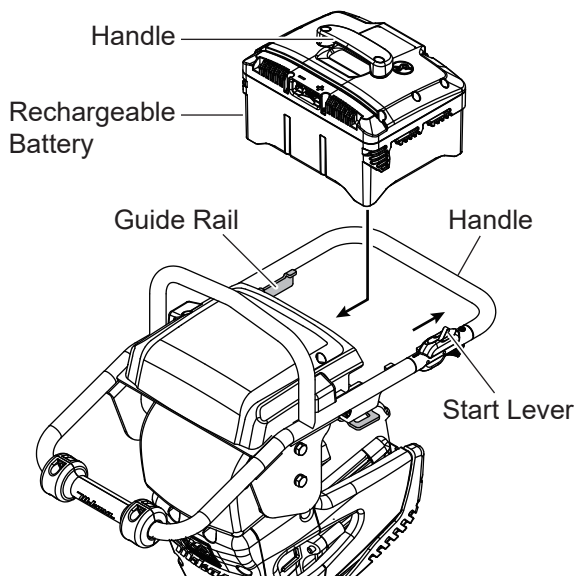

Fig.3
- Installing the rechargeable battery (Fig.3)